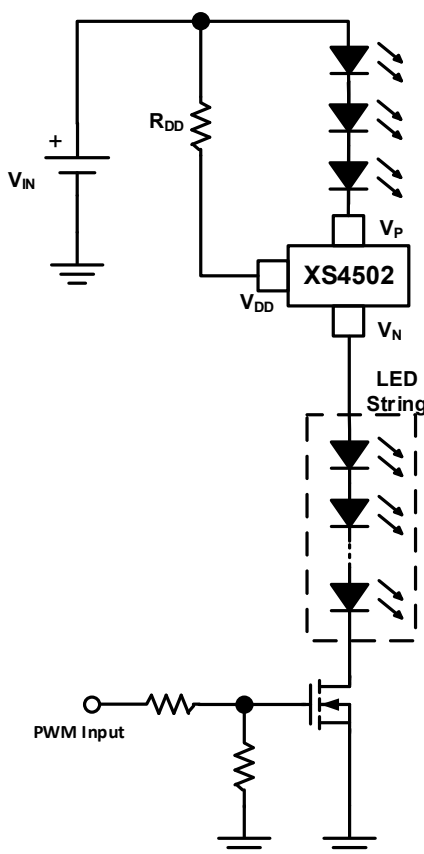
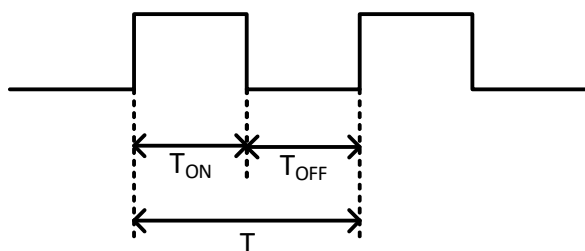

Figure 11. PWM dimming by external MOSFET
Figure 12. PWM dimming signal
The LED dimming can be easily achieved by placing an external MOSFET in series with XS4502 and the dimming effect can be achieved by adjusting the PWM duty cycle, as shown in figure 11. Besides, duty cycle is expressed as below and that is a ration of LED turn-on time (T_{ON}) dividing the total time of an on/off cycle (T) which is shown in figure 12, and figure 13 shows the current accuracy with different duty cycle.